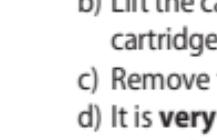

Fig. 1
- a) Press the black release lever located below the plunger on the back of the dispenser and pull plunger back as far as possible (Fig. 1).